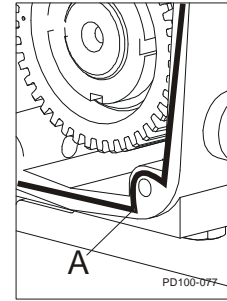

Figure 63 - Sealant Placement
7. Apply Gore-Tex[®] sealing tape to back of gear case. Place tape on inside of screw holes. (Figure 63, item A).